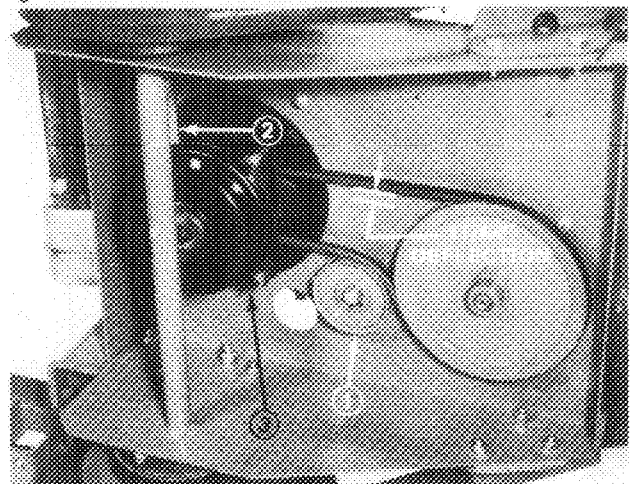

Figure 21
1. Loosen capscrew and flange nut securing idler pulley to frame (Fig. 21). Slide pulley outward relieving belt tension.
2. Remove left front engine mounting bolt securing clutch retainer to frame (Fig. 21). Unhook retainer from clutch and remove retainer.
3. Disconnect in-line wire connector and remove belt from drive pulley and clutch (Fig. 21).
6. Position and secure idler pulley to frame so belt deflection is no more than 1 1/64" when 5–1/2 lb of force is applied to mid span of long leg of belt (Fig. 21).
1. To adjust clutch, tighten or loosen locknuts on flange studs (Fig. 21).